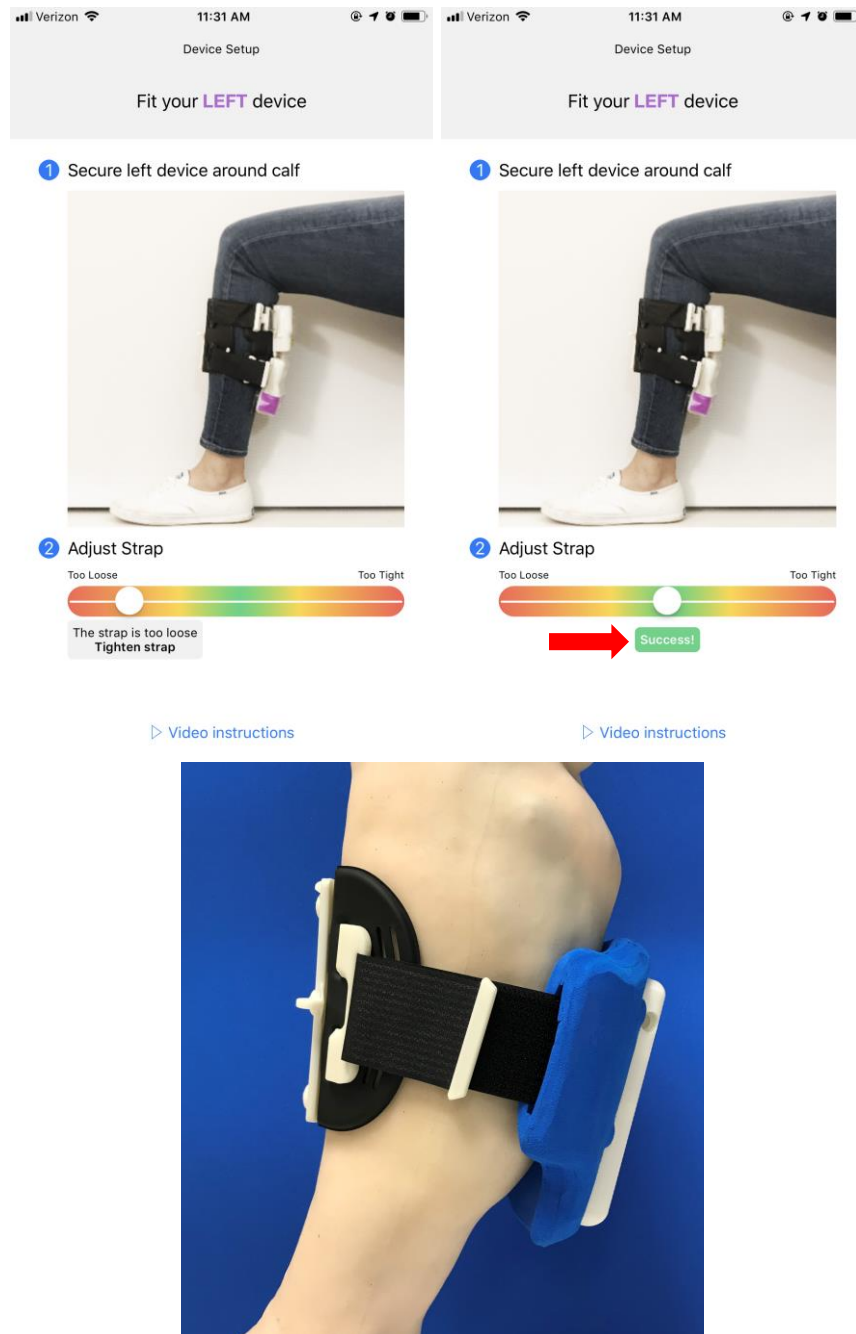

Figure 7: Adjusting Cirvo Device straps to correct tension – Left Leg.
3. Center the controller unit onto your calf area as illustrated in **Figure 7** and **Figure 8**, approximately 1" below the back of your knee. For comfort, a stocking may be worn under the Cirvo Device